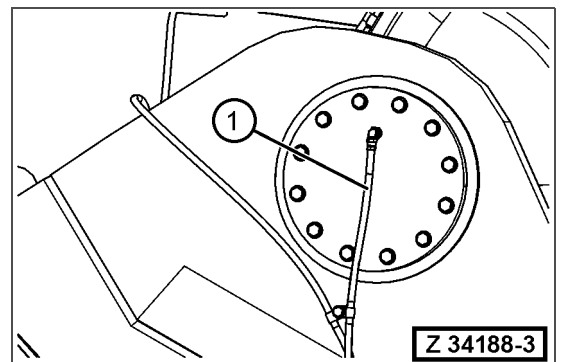

Fig. 5-199 Inner L.H. side bearing
8. Reconnect the grease hose (Fig. 5-199, Pos. 1) at inner L.H. side bearing.